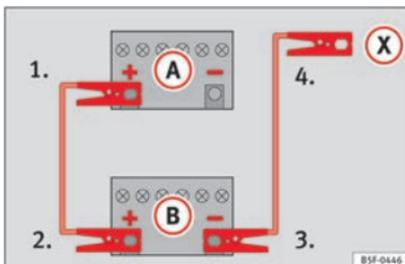

Fig. 77 Diagram of connections for vehicles without Start Stop system
2. Connect one end of the **red** jump lead to the positive (+) terminal of the vehicle with the flat battery (A) >>> Fig. 77.
3. Connect the other end of the **red** jump lead to the positive terminal (+) in the vehicle providing assistance (B).
4. *For vehicles without Start-Stop system:* connect one end of the **black** jump lead to the negative terminal (-) of the vehicle providing the current (B) >>> Fig. 77.